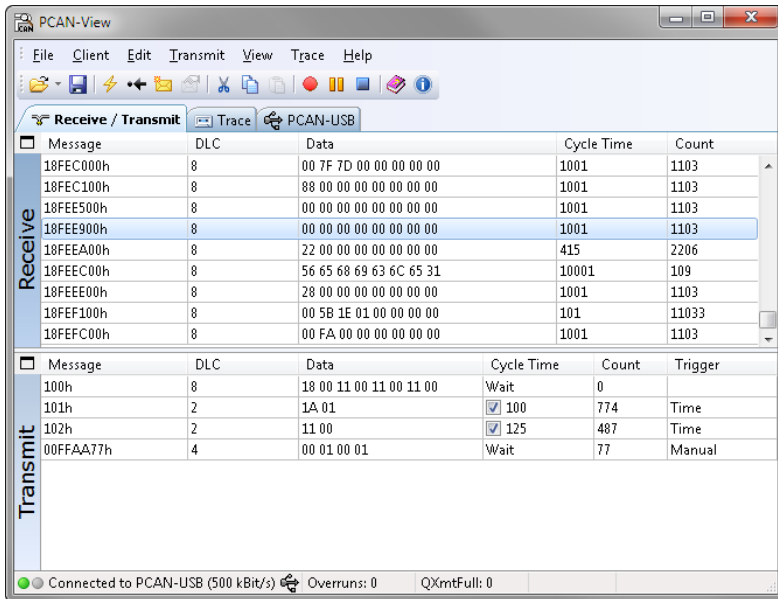

Figure 11: Receive/Transmit tab
5. Finally confirm the settings in the dialog box with **OK**. The main window of PCAN-View appears (see Figure 11).